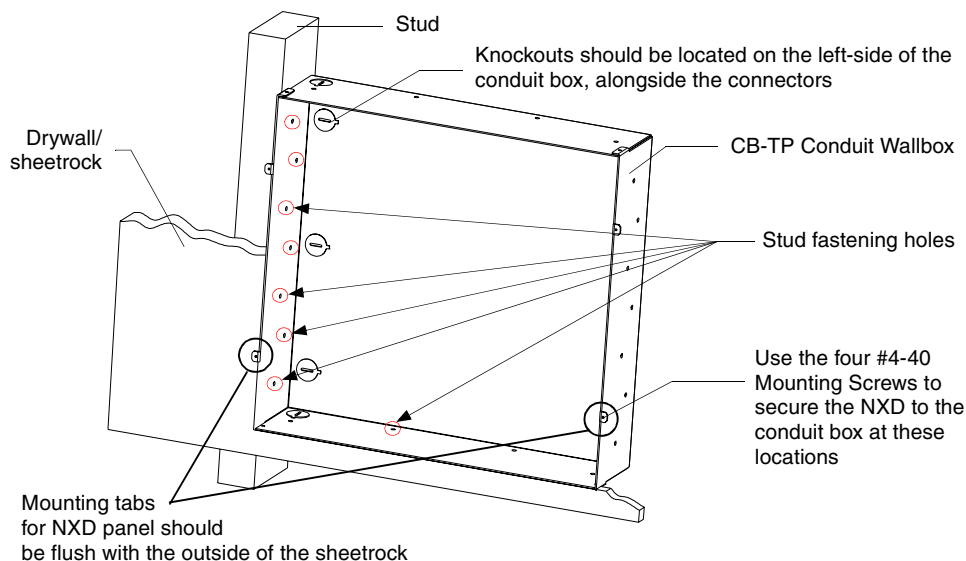
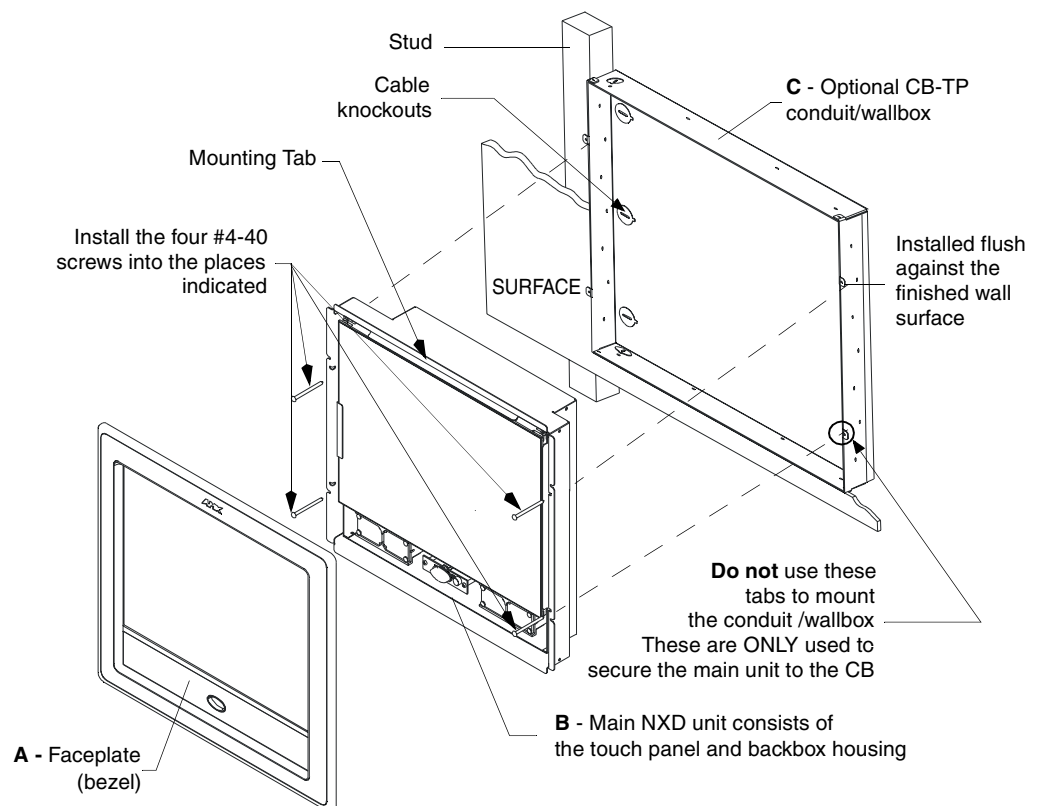

FIG. 38 Screw locations for conduit box attachment in a pre-wall installation
FIG. 39 Wall Mount panel installation configuration for pre-existing conduit/wallbox in a pre-wall construction
1. Fasten the CB-TP15 or CB-TP12 to a stud through the stud fastening holes, located on the inside of the conduit box (FIG. 38), by using either nails or screws.
2. Remove any necessary wiring knockouts from the (optional) conduit box (CB-TP12/15) (C in FIG. 39) where the necessary cables are threaded through for connection to the touch panel.
1. Remove the magnetic faceplate/bezel (A in FIG. 39) from the main NXD unit (B in FIG. 39) by gripping the faceplate and pulling with gentle outward force.
6. Carefully slide the main unit (**B** in FIG. 39) into the conduit box, so that all Mounting Tabs lie flush against the conduit box (**C** in FIG. 39).
7. Insert and secure the four securing #4-40 Mounting Screws into their corresponding holes located along the sides of the NXD (FIG. 38 and FIG. 39).
8. Place the magnetic faceplate (**A** in FIG. 39) back onto the main NXD unit (**B** in FIG. 39). *Make sure to align the Microphone, Light, and PIR Motion sensor locations to their respective openings on the front bezel/faceplate.*